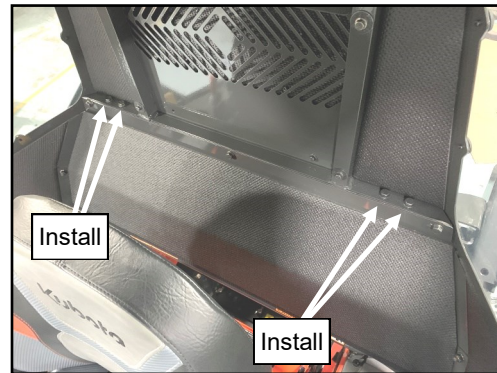

Fig. 5.8 (Install Rear Bolts)
- 5.8 See fig. 5.8. Fasten the rear of the cabin to the ROPS mounts using the following hardware. Leave loose at this time.